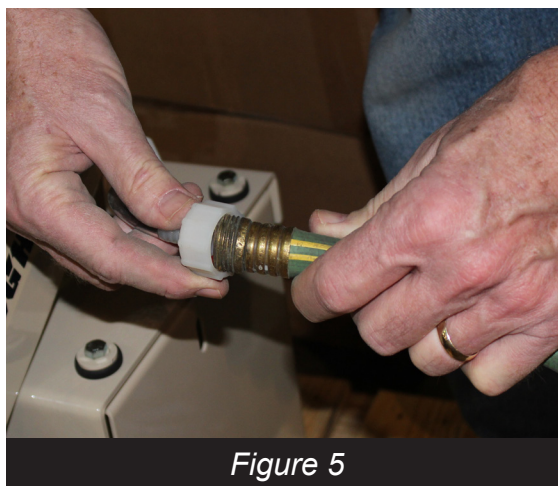

Figure 5
- If wet cutting, with an external source of water, attach water source to the machines supply hose as shown in figure 5, open the drain plug in the water tray and make sure the water has somewhere to go that is clear of the working area.